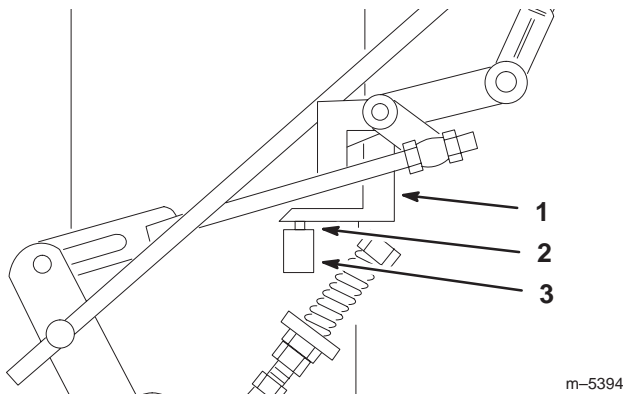

Figure 37
3. Check the orientation of the tabs on the ends of the speed control crank. These tabs should be pointing straight down at the 6 o'clock position approximately (Fig. 37).
4. Adjust the threaded yoke at the bottom of the speed control linkage until the tabs are at the 6 o'clock position (Fig. 37).
6. Check to make sure the safety switch is depressed and there is a 5/16 in. (8 mm) space between the actuating tab and the switch. (Fig. 37).
7. If needed, adjust switch location to create the 5/16 in. (8 mm) space (Fig. 37).